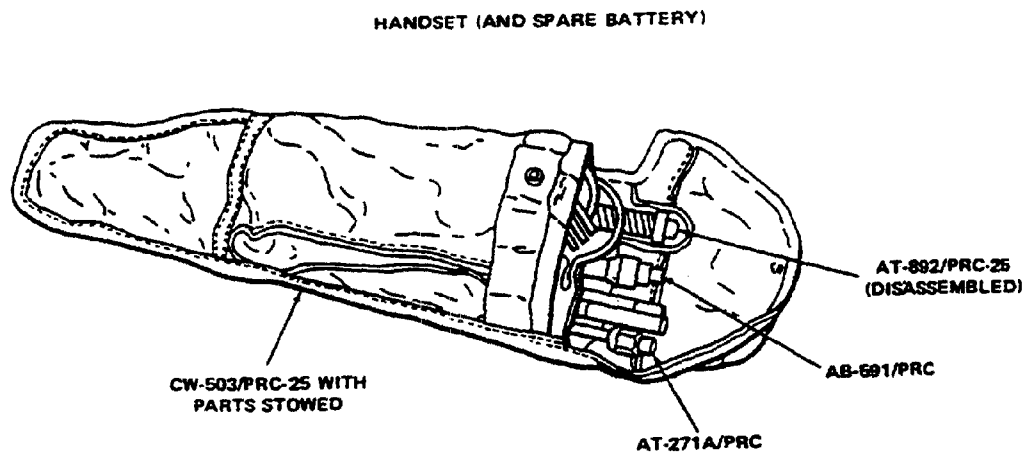

Figure D-4. Bag, Cotton Duck CW-503/PRC-25
(2) Antenna AT-271A/PRC. The AT-271A/PRC is composed of six sections; each section fits into the end of a wider section. A stainless-steel, plastic-covered cable (or braided plastic cord), under spring tension, is threaded through the sections to keep them together in the operating condition. When the sections are folded, the cable keeps them together as a group, to prevent the loss of individual sections. Spring tension is provided by a spiral spring in the base section. This antenna is used when maximum range is required.
(3) Support, Antenna AB-591A/PRC. The AB-591A/PRC, which is of rigid tubular construction, is used as a main support of the AT-271A/PRC.
(4) Harness, Electrical Equipment LC-2. The LC-2 is made of cotton duck. It is used to secure the RT-841/PRC-77 so that it can be carried on the operator's back.
(5) Bag, Cotton Duck CW-503/PRC-25. The CW-503/PRC-25 is sectionalized into several pockets which are used to store the two antennas, the antenna support, and handset ((6) below) (Figure D-4).